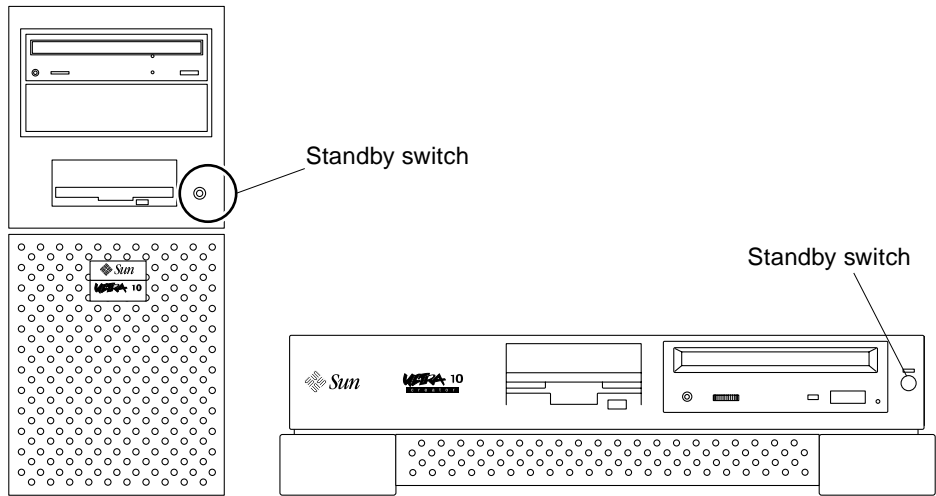
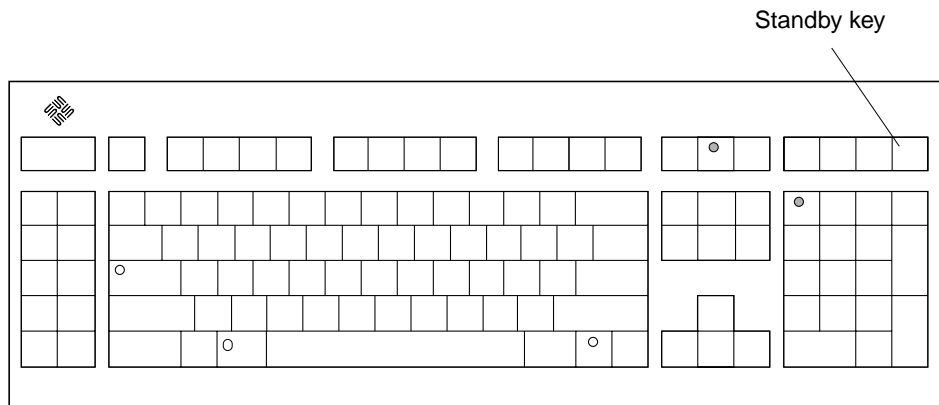
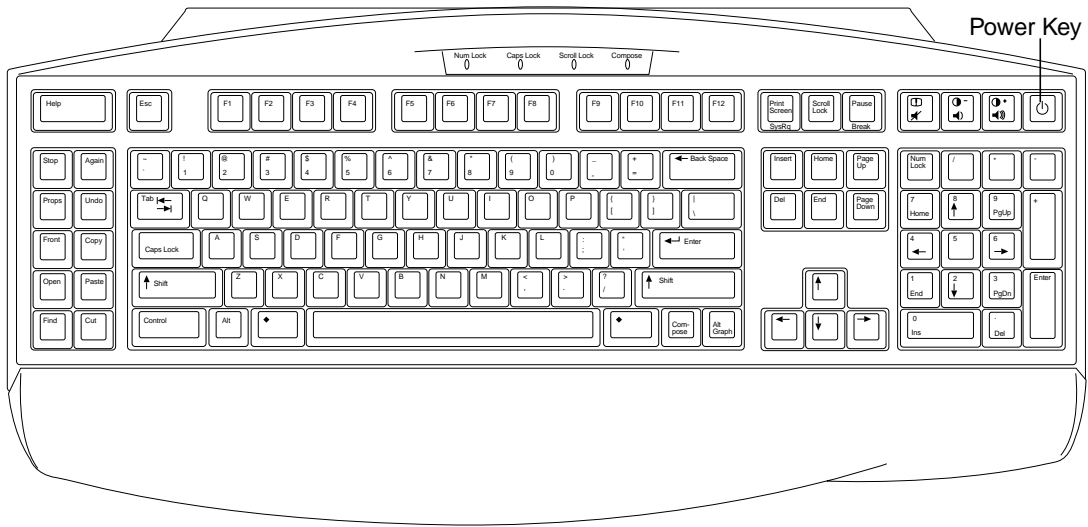

FIGURE 1 Standby Switches
FIGURE 2 Sun Type-5 Keyboard Standby Key
FIGURE 3 Sun Type-6 Keyboard Power Key
2. **Press the standby switch (FIGURE 1) or press the Sun Type-5 keyboard Standby key (FIGURE 2) or Power key on the Type-6 keyboard (FIGURE 3).**